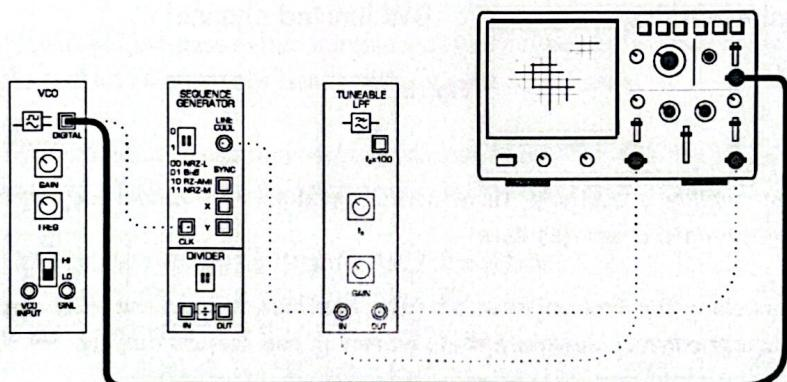

Figure 1
3. Modify your set-up as shown in Figure 1 below.